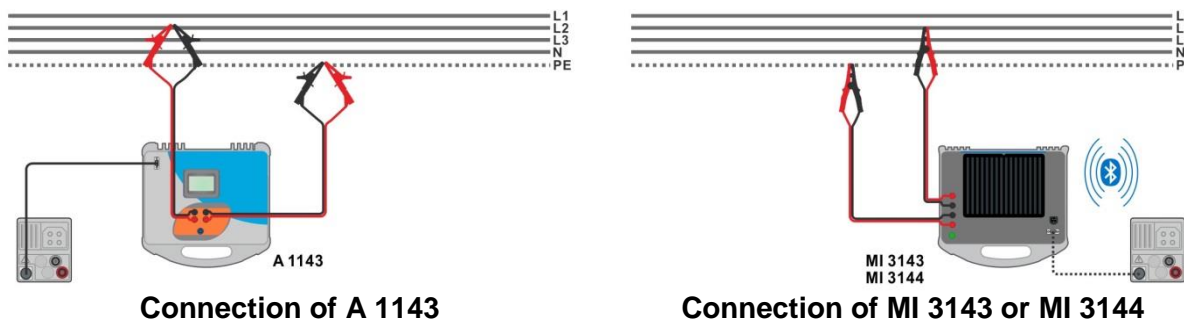

Figure 7.40: High precision Loop impedance measurement
- › Connect MI 3152(H) instrument with A 1143, MI 3143 or MI 3144 Euro Z adapter / instrument via serial RS232 or pair them using Bluetooth communication. See chapter 4.6.5.1 Selection and configuration of measuring adapters.
- › Check Bluetooth communication active sign if MI 3143 or MI 3144 Euro Z instrument is connected to MI 3152(H) instrument via Bluetooth communication.
- › Connect test leads to the object under test, see **Figure 7.40** and **Figure 7.41**.